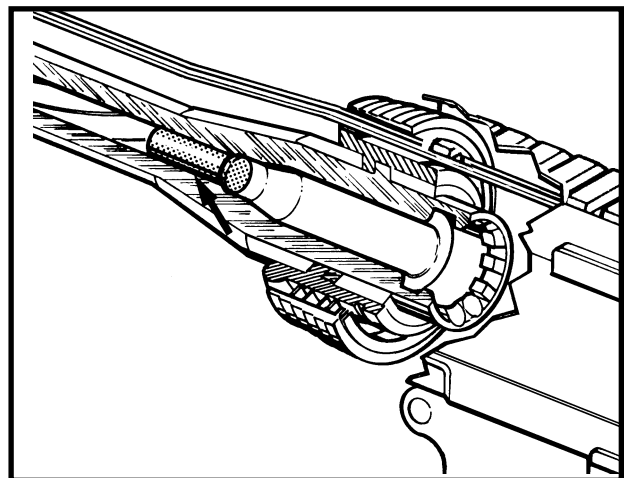

Figure 3-2-20 Inspecting the Chamber
- (1) Security and correct form of the front sight;
- (2) Security and correct form of the barrel indexing pin;
- (3) Cracks, rust, bulges or pitting in the bore;
- (4) Amount of gilding (coppering) of the rifling, as denoted by the darkness of the lands; and
- (5) Condition of the chamber, determined by using the reflector tool. See Figure 3-2-20.